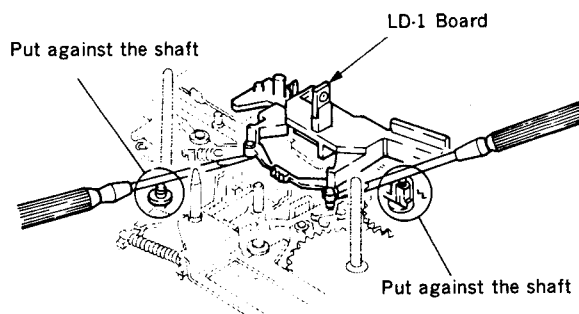

Fig. 1
- (1) Remove the Cassette-up Compartment Assembly referring to Section 2-3.
- (2) Disconnect the connector (CN301) on the RS-31 Board.
- (3) Remove the T Reel Table Assembly referring to Section 4-14.
- (4) Remove the stopper washer and remove the Drive Gear B Assembly.
- (5) Remove the LD-1 Board. (fig. 1)
- (6) Remove the Lock Slider M Assembly referring to Removal Steps (3) to (5) of Section 4-20.
- (7) Remove the tension spring and remove the B Release Arm Assembly.
- (8) Check that the M-mode is put into **EJECT** mode.
- (9) Remove the stopper washer and remove the Mode Output Gear.
- (10) Release the two claws of the Control Motor Cover and remove the Push Switch.
- (11) Disconnect the connector (6P) on the M-switch Assembly.
- (12) Remove the two fixing screws and remove the Control Motor Cover L.
- (13) Remove the fixing screw and while lifting up the M-switch Assembly, push the T.S Release Arm in the direction of the arrow A. Then push the T Main Brake Assembly in the direction of the arrow B and remove the M-switch Assembly.